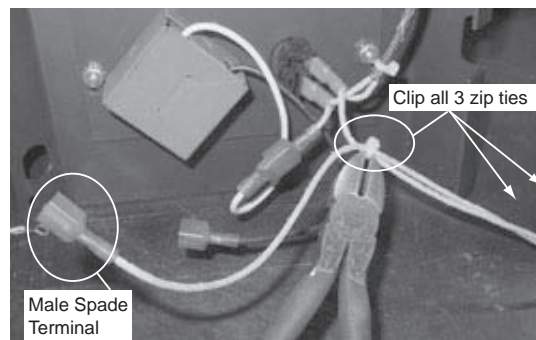

Figure 43.2
4. Identify the wire with the male spade terminal (this was originally connected to the white (neutral) lead on the power cord) and carefully clip the three small zip ties that connect it to the rest of the harness. **Figure 43.2**